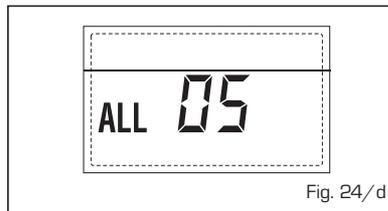

Fig. 24/d
- BLOQUEO LLAMA "AL 06" (fig. 24/e)